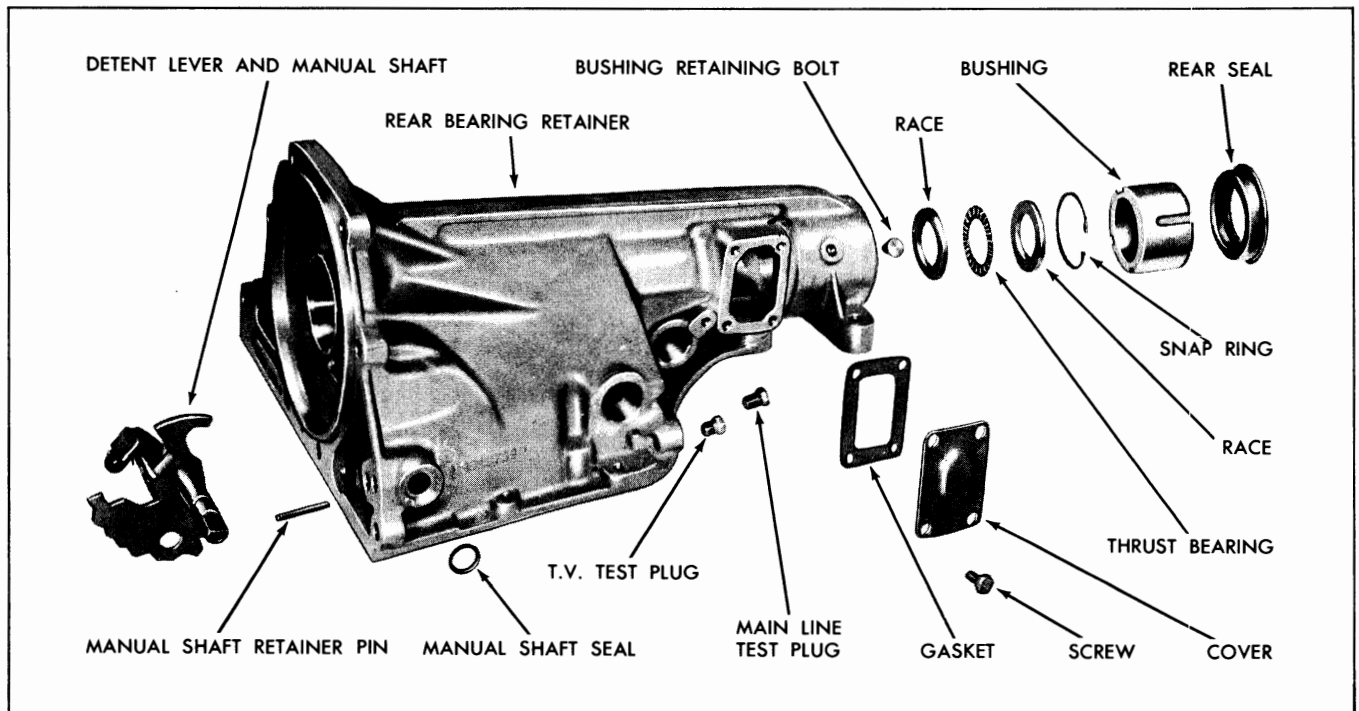

Fig. 7C-104 Rear Bearing Retainer
4. Remove the rear thrust bearing race to rear bearing retainer thru arc snap ring through access hole in retainer (Fig. 7C-104).